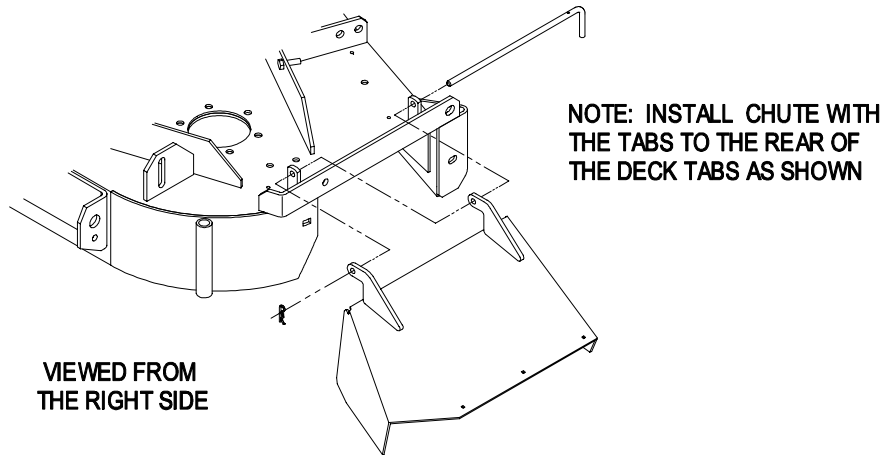

FIGURE 4
- Remove two (2) capscrews connecting the discharge chute to the deck. Remove the discharge chute.
- Re-Install the discharge chute using the chute pivot pin (Item 18) and hairpin (Item 19) provided as shown in Figure 4.